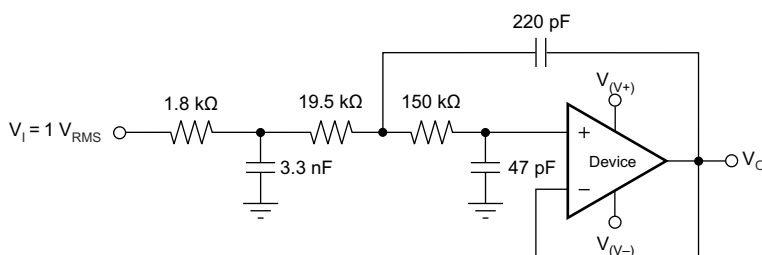

Figure 7-7. OPAx354-Q1 Configured as a Three-Pole, 20kHz, Sallen-Key Filter
3. Using a noninverting filter topology, such as the Sallen-Key (see Figure 7-7).